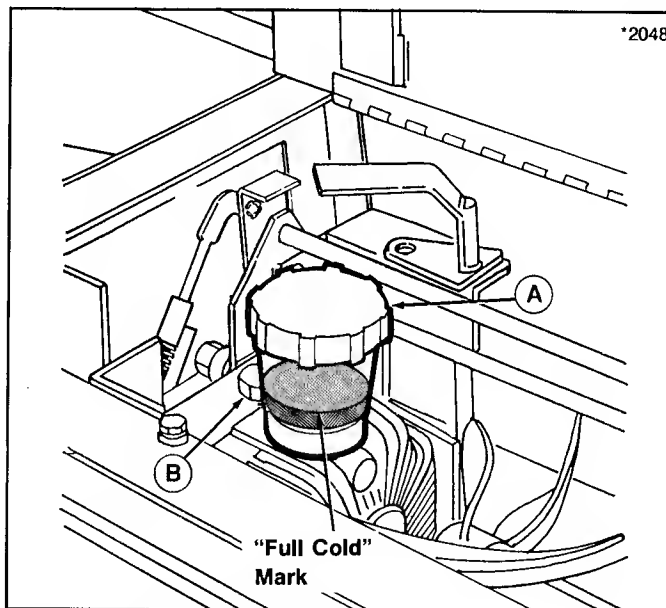

Figure 8. Hydrostatic Reservoir
2. The fluid level is visible in the reservoirs (figure 8) without removing caps. The level should be at FULL COLD mark. If not, go to step 3.
3. Clean the area around the reservoir (A, figure 8) and remove the reservoir cap. Add multi-purpose transmission fluid. For extended use in extremely hot weather, a 30W premium grade, oil can be used in the hydro pumps. Vent plug (B, figure 8) can be loosened or removed if adding a large quantity of oil to refill pump.